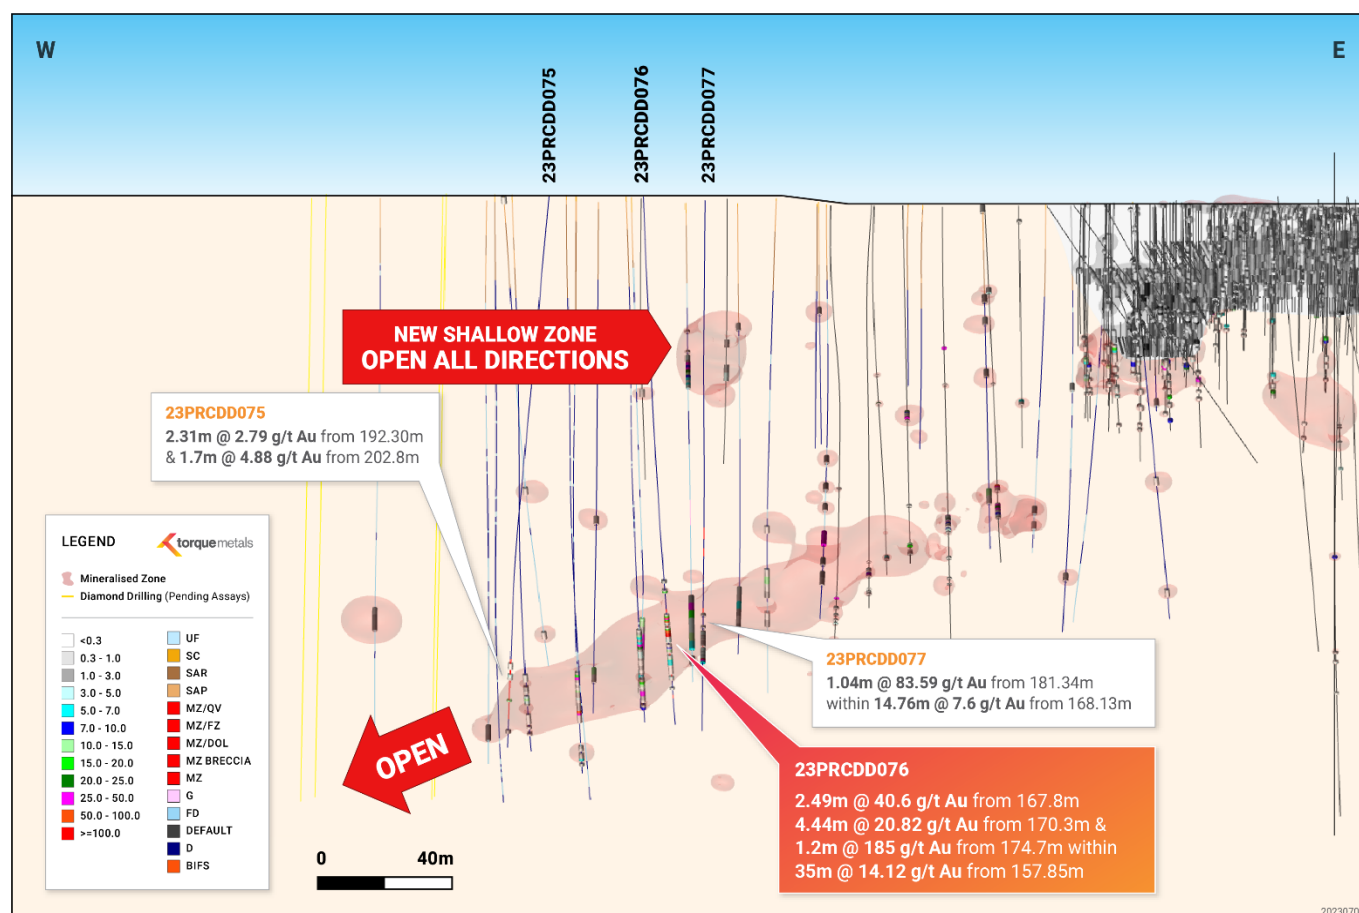

Figure 1 Paris prospect, mineralised intervals at holes 23PRCDD075, 23PRCDD076, and 23PRCDD077
Torque Metals received assays from its inaugural diamond drilling (DD) at Paris and Observation prospects. At Paris, in-fill reverse circulation (RC) pre-collar-diamond tail drilling again encountered multiple, highly altered fault regions with abundant sulphides and quartz veining over significant widths¹ (Figure 1); key assay results as follows with full analytical data in Appendix 1.